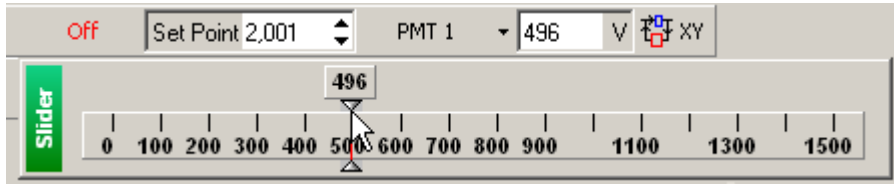

Fig. 12-24. Adjusting voltage applied to the PMT
6. Double-click in the field to the right from the list (Fig. 12-24) to open a slider that adjusts voltage applied to the PMT. Move the slider and observe the **Ext2** signal in the oscilloscope. The working level of the **Ext2** signal is in the range 0.1÷1 V (level of 10 V corresponds to saturation of the PMT). Click anywhere inside of the Program window to activate the desired voltage.